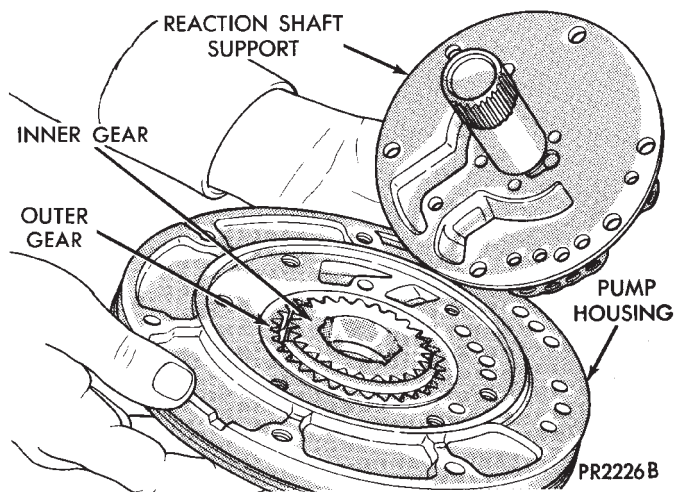

**Fig. 2 Install Pump Oil Seal**
(2) To install a new seal, place seal in opening of the pump housing (lip side facing inward). Using Tool C-4193 and Handle Tool C-4, drive new seal into housing until tool bottoms (Fig. 2).